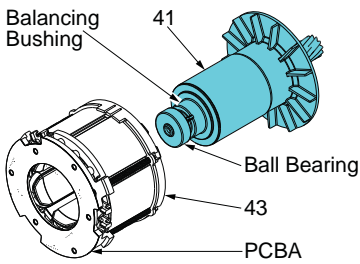

Figure 1
- **Strong magnetic force.** Care must be taken when installing the Rotor (41) into the Stator Assembly (43). Do not allow rotor bearing or balancing bushing to hit PCBA on the back end of the stator. This could cause damage to the PCBA. See figure 1.